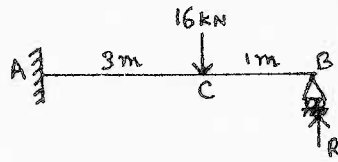

Fig.Q4(a)
- 4 a. Analyze the propped cantilever subjected to the loadings as shown in the Fig.Q4(a), using strain energy method.  $EI$  is constant. Calculate "R" and " $M_A$ ".